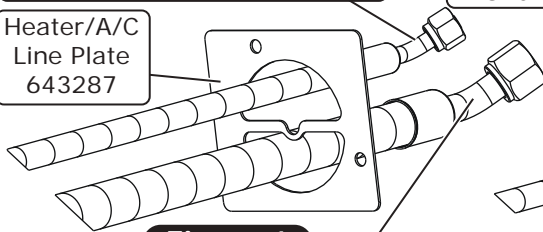

Figure 1
3. In the engine compartment side, route the 45° fitting of the #6 drier/evaporator A/C hose through the top port on the heater/A/C line plate (See Figure 1, below).
4. In the engine compartment side, route the 45° fitting on the #10 compressor/evaporator A/C hose through the bottom port on the heater/A/C line plate (See Figure 1, below).